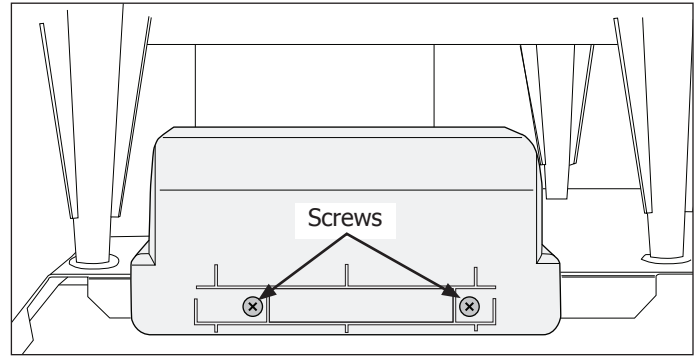

Figure 4-17.
3. Extract the two screws securing the capacitor cover to the unit frame. (See Figure 4-17)